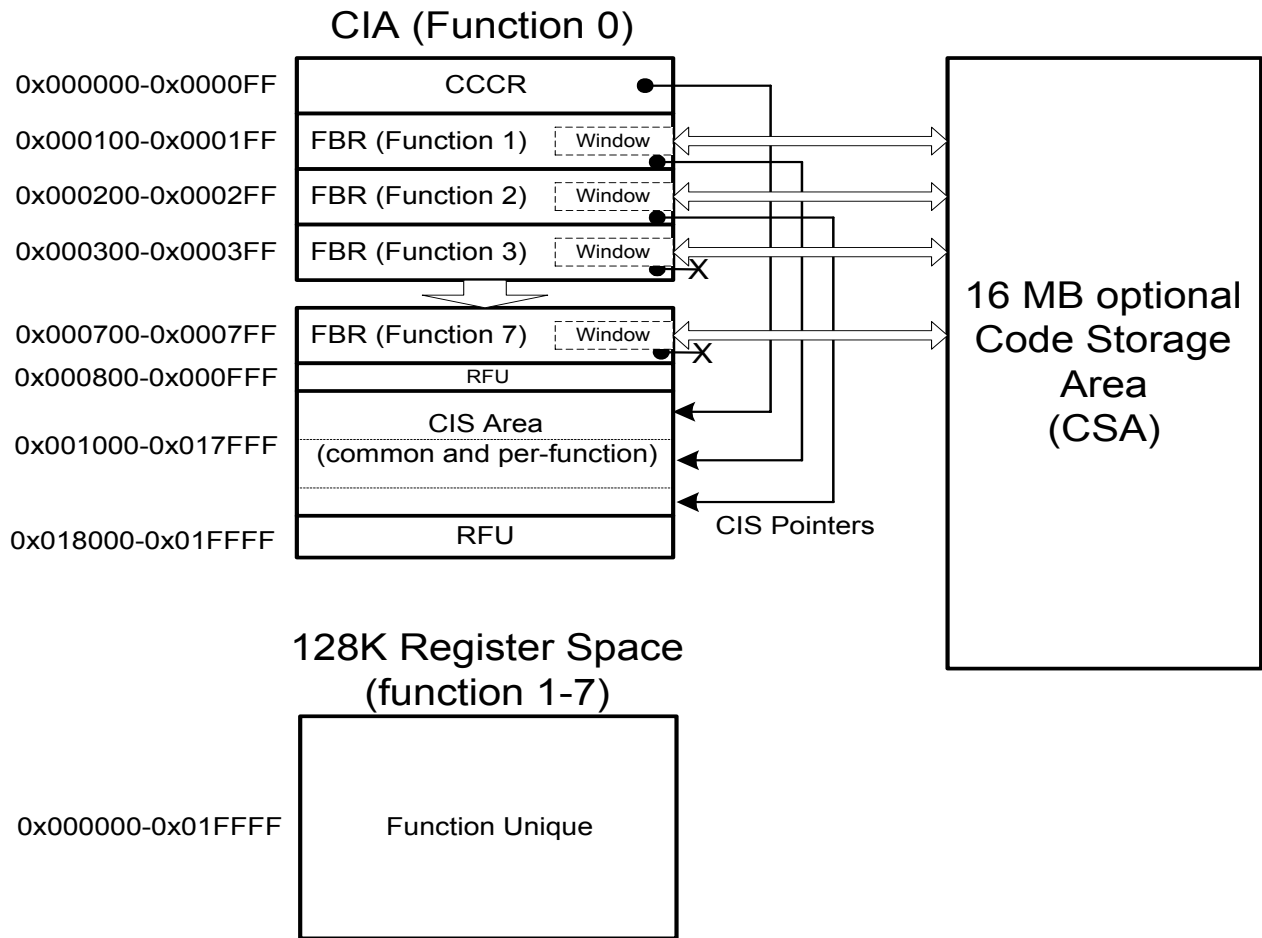

Figure 6-1 SDIO Internal Map
Each SDIO card may have from 1 to 7 functions plus one memory function built into it. A function is a self contained I/O device. I/O functions may be identical or completely different from each other. All I/O functions are organized as a collection of registers. There is a maximum of 131,072 ( $2^{17}$ ) registers possible for each I/O function. These registers and their individual bits may be read Only (RO), Write Only (WO) or Read/Write (R/W). These registers can be 8, 16 or 32 bits wide within the card. All addressing is based on byte access. These registers can be written and/or read one at a time, multiply to the same address or multiply to an incrementing address. The single R/W access is often used to initialize the I/O function or to read a single status or data value. The multiple reads to a fixed address are used to read or write data from a data FIFO register in the card. The read to incrementing addresses is used to read or write a collection of data to/from a RAM area inside of the card. Figure 6-1 shows the mapping of the CIA and optional CSA space for an SDIO card.
The SDIO card has a fixed internal register space and a function unique area. The fixed area contains information about the card and certain mandatory and optional registers in fixed locations. The fixed locations allow any host to obtain information about the card and perform simple operations such as enable in a common manner. The function unique area is a per-function area, which is defined either by the Application Specifications for Standard SDIO functions or by the vendor for non-standard functions. Figure 6-1 shows the internal map of an SDIO card with multiple functions.